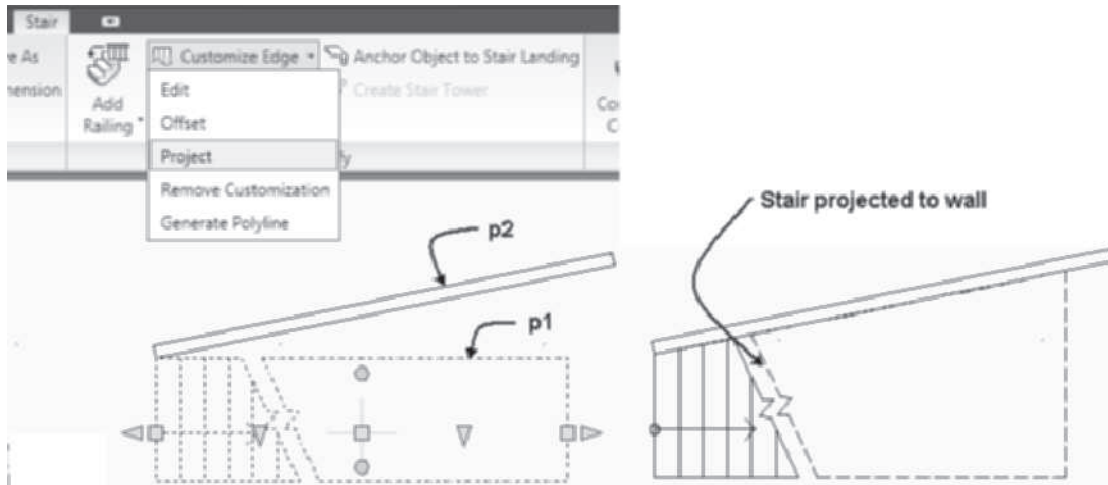

FIGURE 9.21 Stair projected to a wall
The following workspace sequence was used to extend the stair shown in Figure 9.21 to the wall.
- Select an edge of a stair: (Select the stair at **p1** as shown in Figure 9.21.)
- Select a polyline or connected AEC objects to project to: 1 found (Select the wall at **p2** as shown in Figure 9.21.)